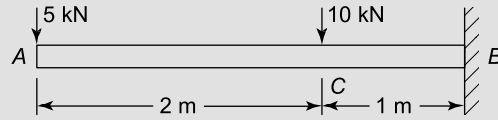

Figure 7.24
**Problem 5.** Determine the bending moment and shearing force diagram for the cantilever shown in Figure 7.24, which is rigidly constrained at the end B.